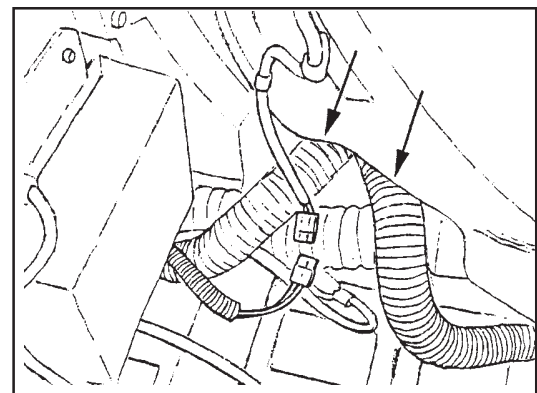

Figure 13B
14. Reconnect the vacuum and squeegee hoses to the recovery lid. Make sure the hose to the vacuum motor and the rear squeegee hose are installed over the top of the drain hose (See figure 13B).